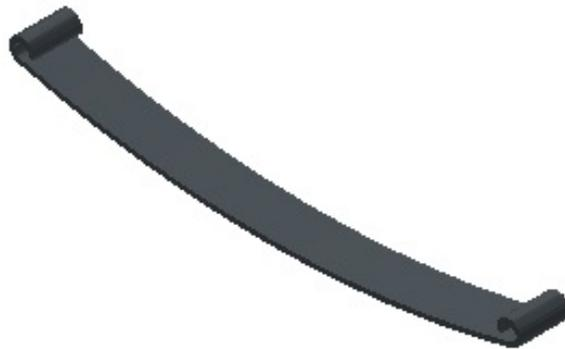

Figure 18-58 The preview of the leaf spring
3. Create the leaf spring, as shown in Figure 18-58, and save the model.